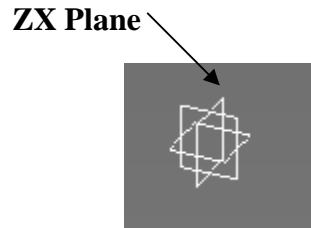

Figure 1.1
There are three standard tool bars found in the Sketcher Work Bench. The three toolbars are shown below. The individual tools found in each of the three tools are labeled to the right of the tool icon. Some tools have an arrow located at the bottom right of the tool icon. The arrow is an indication that there is more than one variation of that particular type of tool. The tools that have more than one option that are listed to the right of the default tool. To display the other tool options you must select and hold the left mouse button on the arrow as shown in Figure 1.1. This will bring up the optional tools Select Arrow Optional tools.
- 1.4 Enter the **Sketcher Work Bench** using the **ZX Plane** as shown in figure 1.1